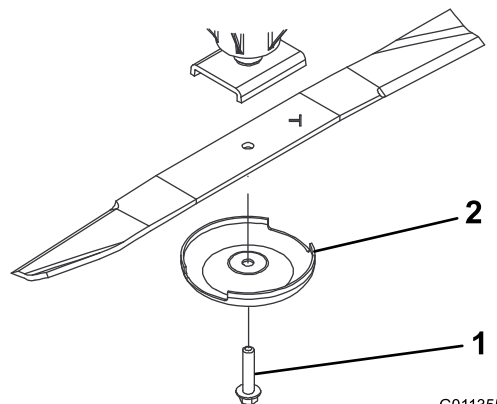

Figure 83
2. Grasp the end of the blade using a rag or thickly padded glove. Remove the blade bolt, anti-scalp cup, and blade from the spindle shaft (Figure 83).
3. Install the blade, sail facing toward the cutting deck, with the anti-scalp cup and blade bolt (Figure 83). Tighten the blade bolt to 115 to 149 N·m (85 to 110 ft-lb).
If the blade is allowed to wear, a slot will form between the sail and flat part of the blade (Figure 83). Eventually a piece of the blade may break off and be thrown from under the housing, possibly resulting in serious injury to yourself or bystanders.